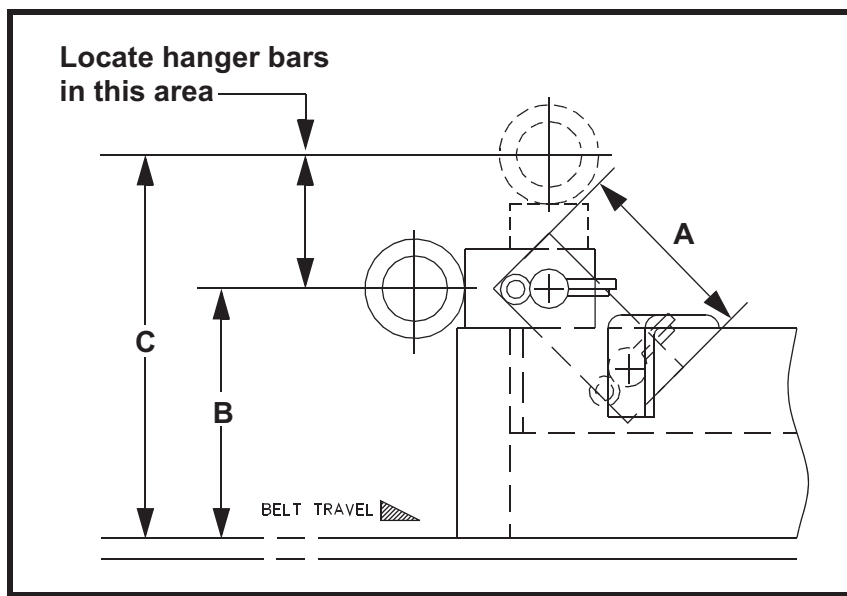

Figure 2. Martin VPlow HD Hanger Bar Locations
2. Locate the hanger bars according to Table II and Figure 2. Mark the location of the hanger bars on the stringers.
(Refer to Figure 2.)